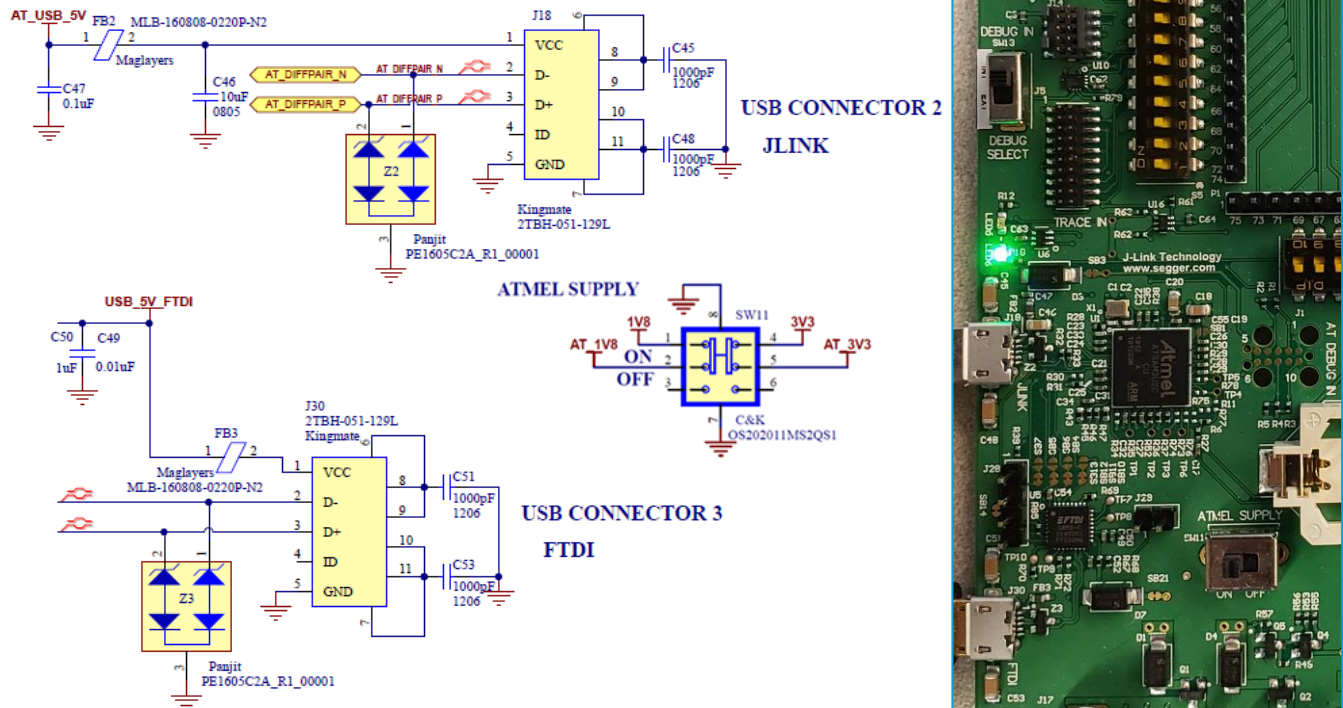

Figure 13: JLINK USB, FTDI USB, and ATMEL SUPPLY switch
- The internal SWD circuitry can also be connected to the modem. The DEBUG SELECT must be set to **INTERNAL**. The ATMEL SUPPLY switch, SW13, must be set to **ON**. USB cables must be plugged into J18 (JLINK) and J30 (FTDI), shown in Figure 13.